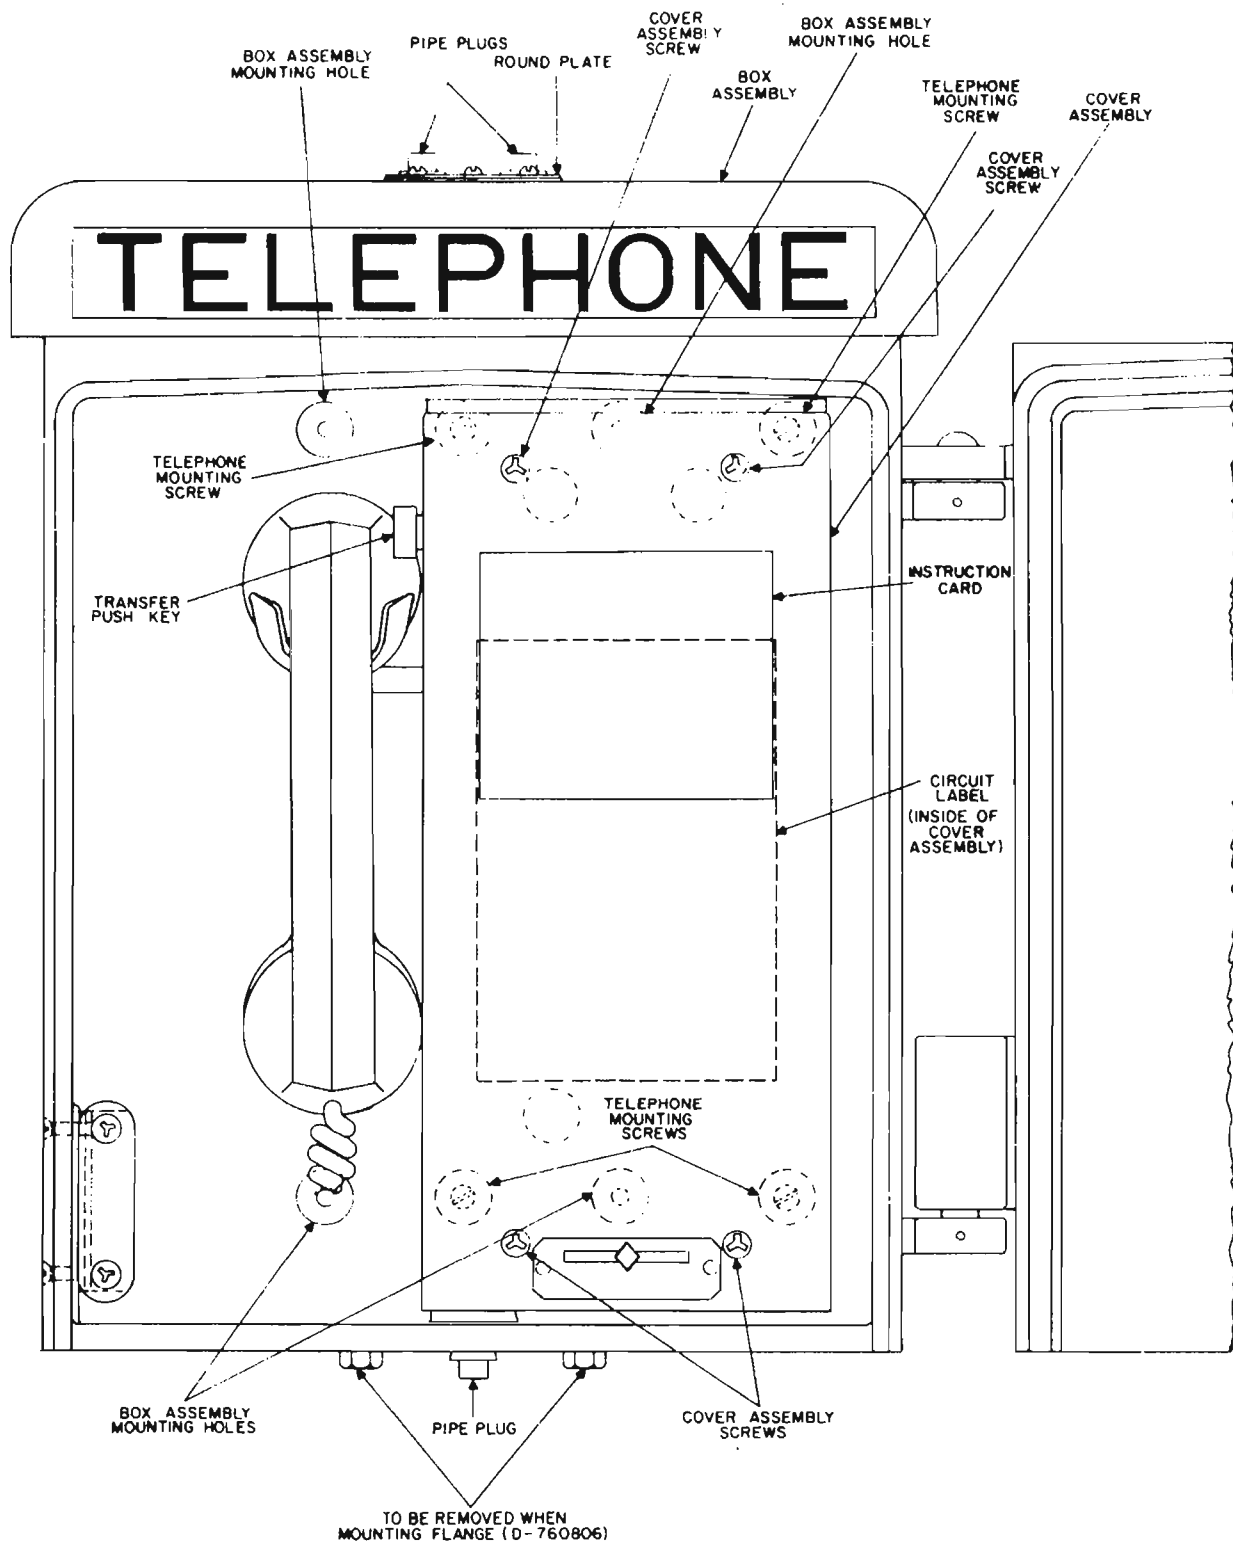

Figure 5. Location of Mounting Holes.
- (1) Open the box assembly door and drill the required mounting holes in the back of the box assembly, using a 17/64-inch drill. The mounting holes are designated by an "x" in Figure 5.
- (2) With the box assembly door open, place the back of the box assembly against the flat surface and secure the telephone to the surface with applicable screws. (These screws are not provided because the types of mounting surfaces differ.)
- (1) Open the box assembly door and drill the mounting holes, using a 17/64-inch drill. The mounting holes are designated by an "x" in Figure 5.
- (2) Place the back of the box assembly against the mounting bracket, lining up the box assembly mounting holes with the tapped holes of the mounting bracket, and secure the two parts together with four 1/4-20 by 5/8-inch screws.
- (1) Remove the three screws and round plate (Figure 5) from the top of the box assembly. The gasket should remain in place.
- (2) Place the adapter (D-66576-A or B) over the gasket that remained on top of the box assembly, and fasten the adapter to the housing with the three screws previously removed. The adapter has provisions for attaching 1/2-inch conduit for running power wires to the lamp. Remove the lamp lens and lens guard from the lamp base. Place gasket (FD-1020-CP) on the top surface of the adapter and the lamp base on the gasket. Fasten the lamp base to the adapter with three 6-32 by 1/2-inch screws.
- (3) Insert the lamp bulb (FD-1023-BA) into the lamp socket and replace the lamp lens and lens guard.